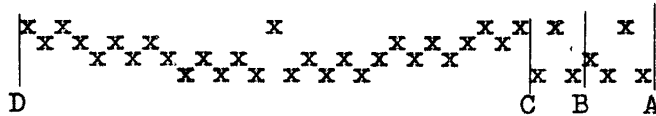
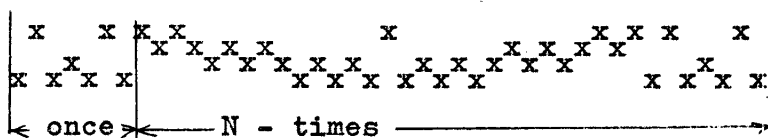

Fig. 1
Fig. 3
Huck is a typical "woven-as-drawn-in" weave, where repeats of threading and treadling are identical in length and order. In practice this means that one side of the fabric is identical with the other after it is turned by 90°. The repeats can have either 6, 10, or 14 threads in both directions. Thus we have 6 x 6, 10 x 10, or 14 x 14 huckaback. The threading draft can be written in several ways but this does not affect the fabric in any way. The tie-up, treadling and draw-down is shown on fig. 1.
1. Huckaback. (fig. 1)
The only huck which we can weave will have to be 10 x 10 of course. The draw-down is as in fig. 1, but for practical purposes the tie-up should be changed, so that both feet can be used alternately (fig. 3). The treadling with this new tie-up is: 1 3 1 3 1 4 2 4 2 4. Huckaback has a very peculiar texture which shows best when we look at a woven piece against the light. There are tiny slits which run on a diagonal in both directions.
1. The Main Draft. In conventional weaving patterns are usually symmetrical, but the drafts very often are not. Thus the first step in such a case is to "balance" the draft. This can be done in two ways. Let's take as an example the draft in fig. 1.
This is still not completely symmetrical, but the difference of one heddle can be taken care of when adjusting the borders. Another way of balancing is to use the draft such as given in fig. 1, repeat it in threading the required number of times, and then add at the end the part from A to C. (fig. 1) It will look as in fig. 3.